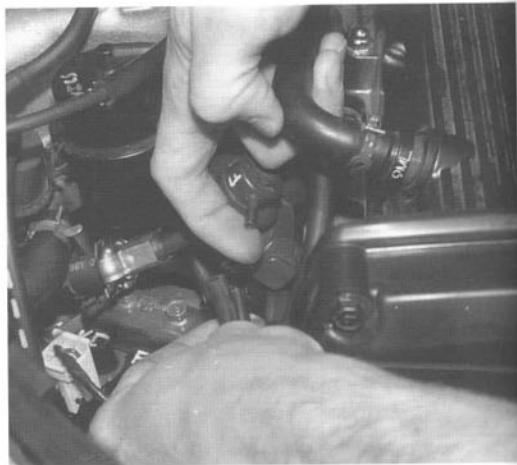

Fig. 2-5. Check for evidence of fuel at regulator vacuum port. If it is dry, the diaphragm is not leaking.
4. Remove the vacuum hose from the regulator. See Fig. 2-5. If the diaphragm is leaking, you will see evidence of fuel at the vacuum port. Replace the regulator.